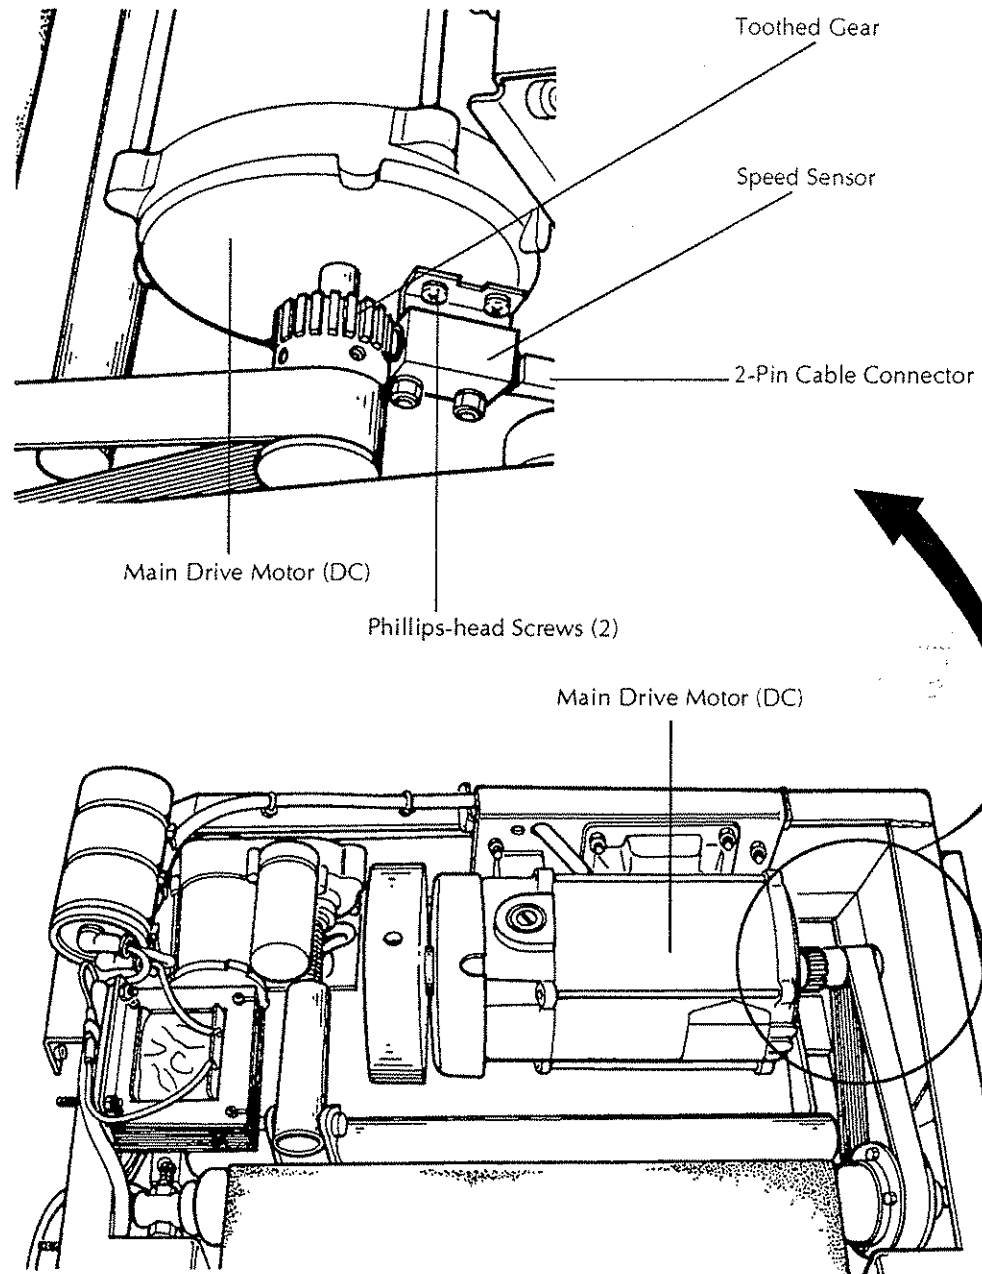

Figure 5-15: Replacing the Speed Sensor
2. Disconnect the speed sensor's 2-pin connector. See Figure 5-15.
3. Remove the two Phillips-head screws securing the speed sensor to the main drive motor housing. See Figure 5-15.
6. Disconnect the speed sensor's 2-pin connector. See Figure 5-15.
7. Remove the two Phillips-head screws securing the speed sensor to the main motor housing. See Figure 5-15.